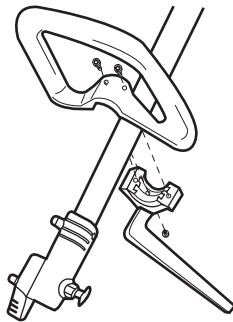

Fig. 1
3). Place the handle onto the shaft from the top and secure it with the longer screws. Tighten them with the hex key (E5). (See Fig. 1)